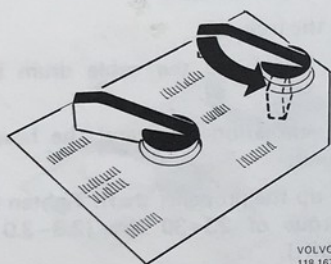

Fig. 92-43. Engaging the winch
14. Engage the winch by turning the right-hand control switch as shown in Fig. 92-43.